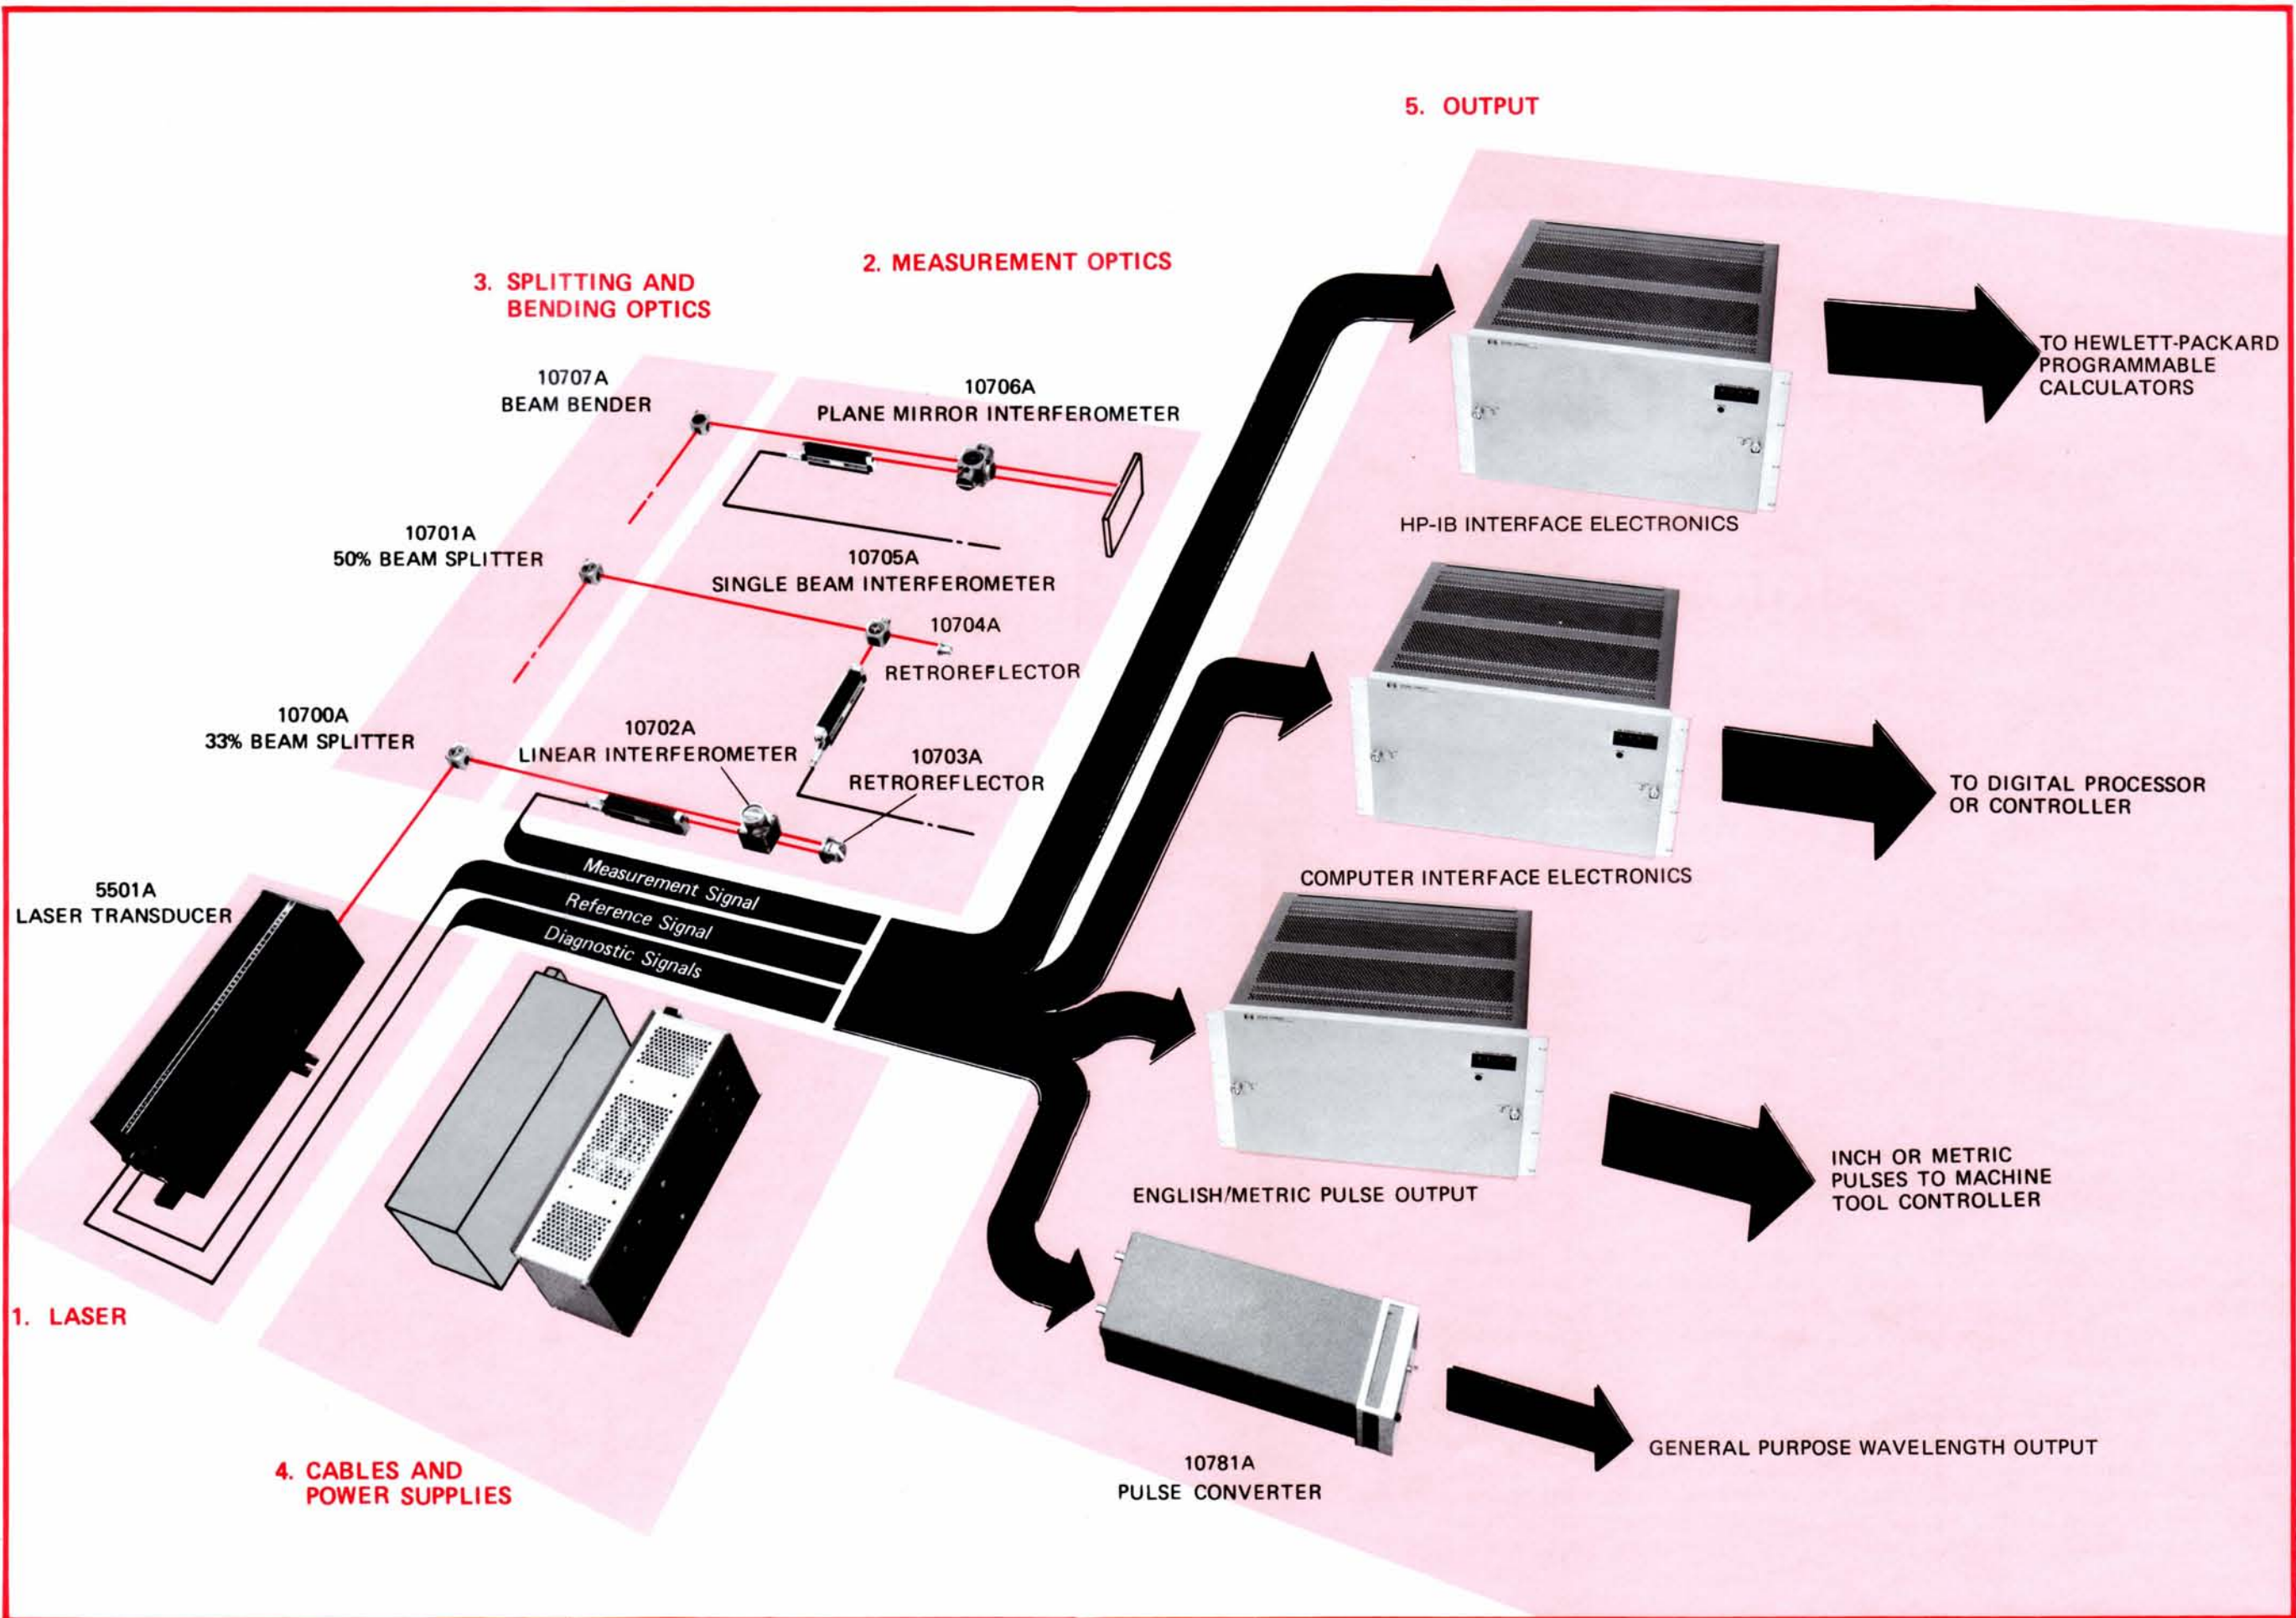

Figure 1-1. HP 5501A Laser Transducer System
This manual provides the information necessary for you to understand, install, program, operate, and troubleshoot the 5501A Laser Transducer System (*Figure 1-1*). It does this by giving you the necessary information at the system level to accomplish each of those functions. It also acts as a guide to the backup operating and service manuals that are supplied for each unit that make up your individual system.
Use the following information on configuring a 5501A Laser Transducer System to determine and record exactly what equipment is present in your system. You can then use that record to determine the specific information in this manual that is directly applicable to your system. For an overview of the various possible configurations see *Figure 1-1*.
- b. **CHOOSE ACCESSORIES FOR EACH AXIS OF MEASUREMENT** (up to four axes). As illustrated in *Figure 1-1*, three accessories are required to be mounted on each machine axis; an interferometer, a reflector, and a 10780A Receiver. When the 10702A Linear Interferometer is used, the 10703A Retroreflector serves as its reflector. For the 10705A Single Beam Interferometer, the reflector may be either a flat reflective surface, or the 10704A Retroreflector. The 10706A Plane Mirror Interferometer is designed to be used in conjunction with high-quality plane mirror reflectors (refer to *Table 1-2*).